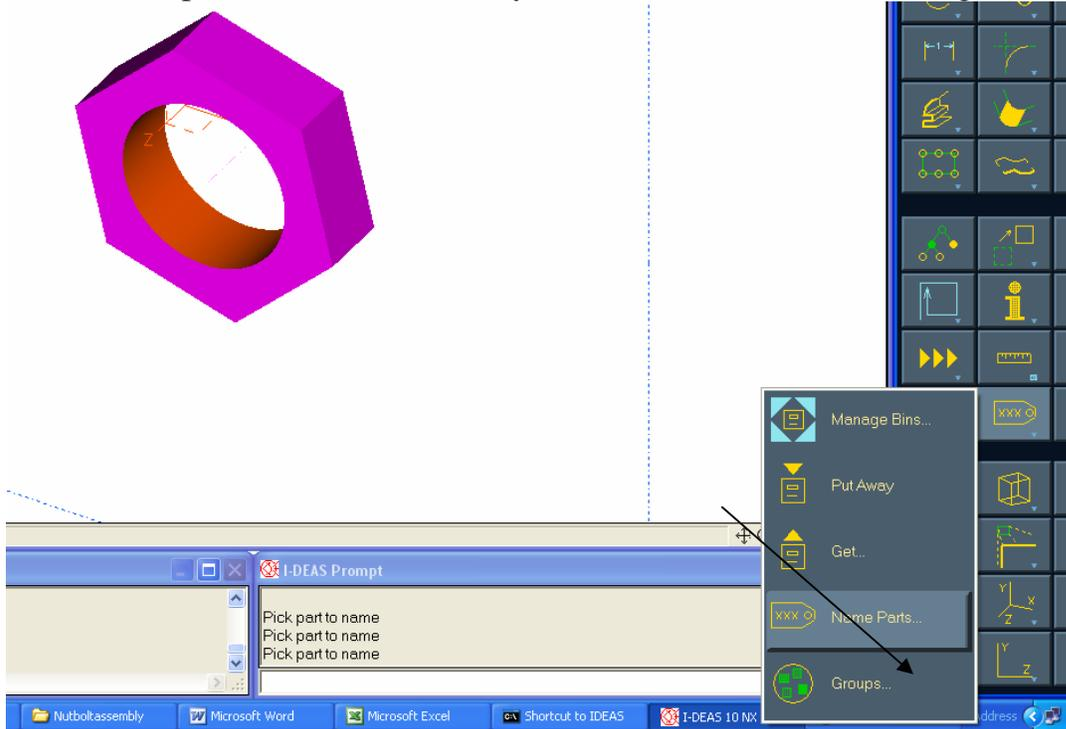

Figure 8: Creating the nut
7. Name the part as *nut* and Put Away the same in bin as shown in Figure 8